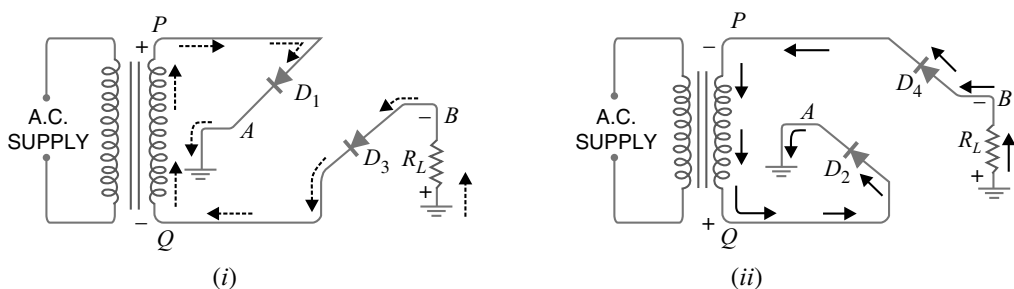

Fig. 4.34
**Operation.** During the positive half-cycle of secondary voltage, the end  $P$  of the secondary winding becomes positive and end  $Q$  negative. This makes diodes  $D_1$  and  $D_3$  forward biased while diodes  $D_2$  and  $D_4$  are reverse biased. Therefore, only diodes  $D_1$  and  $D_3$  conduct. These two diodes will be in series through the load  $R_L$  as shown in Fig. 4.34 (i). The conventional current flow is shown by dotted arrows. It may be seen that current flows from  $A$  to  $B$  through the load  $R_L$ .
During the negative half-cycle of secondary voltage, end  $P$  becomes negative and end  $Q$  positive. This makes diodes  $D_2$  and  $D_4$  forward biased whereas diodes  $D_1$  and  $D_3$  are reverse biased. Therefore, only diodes  $D_2$  and  $D_4$  conduct. These two diodes will be in series through the load  $R_L$  as shown in Fig. 4.34 (ii). The current flow is shown by the solid arrows. It may be seen that again current flows from  $A$  to  $B$  through the load *i.e.* in the same direction as for the positive half-cycle. Therefore, d.c. output is obtained across load  $R_L$ .